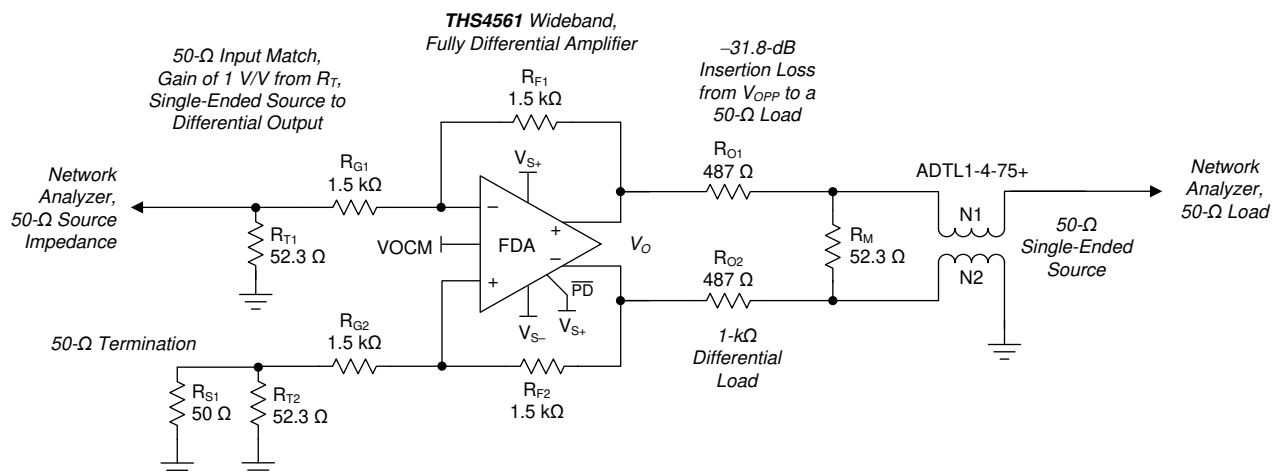

Figure 8-1. Single-Ended Source to a Differential Gain of a 1-V/V Test Circuit
at T_A ≈ 25°C, V_{OCM} pin = open, R_F = 1.5 kΩ, R_L = 1 kΩ, V_O = 2 V_{PP}, 50-Ω input match, G = 1 V/V, $\overline{PD} = V_{S+}$, single-ended input, differential output, and input and output referenced to default midsupply for AC-coupled tests (unless otherwise noted); see Figure 8-1 for a gain of 1-V/V test circuit.
at T_A ≈ 25°C, VO_{CM} pin = open, R_F = 1.5 kΩ, R_L = 1 kΩ, V_O = 2 V_{PP}, 50-Ω input match, G = 1 V/V, $\overline{PD} = V_{S+}$, single-ended input, differential output, and input and output referenced to default midsupply for AC-coupled tests (unless otherwise noted); see Figure 8-1 for a gain of 1-V/V test circuit.
The characterization circuits are typically operated with a single-ended, matched, 50-Ω, input termination to a differential output at the FDA output pins because most lab equipment is single-ended. The FDA differential output is then translated back to single-ended through a variety of baluns (or transformers) depending on the test and frequency range. DC-coupled step response testing uses two 50-Ω scope inputs with trace math to measure the differential output. Single-supply operation is most common in end equipment designs. However, using split balanced supplies allows simple ground referenced testing without adding further blocking capacitors in the signal path beyond those capacitors already within the test equipment. The starting point for any single-ended input to differential output measurements (such as any of the frequency response curves) is shown in Figure 8-1.
Most characterization plots fix the R_F (R_{F1} = R_{F2}) value at 1.5 kΩ, as shown in Figure 8-1. This element value is flexible in application, but 1.5 kΩ provides a good compromise for the parasitic issues linked to this value, specifically:
- Added output loading: The FDA functions similarly to an inverting op amp design with feedback resistors appearing as an added load across the outputs (the approximate total differential load in Figure 8-1 is 1.5 kΩ || 1 kΩ = 857 Ω). The 1.5-kΩ value reduces the power dissipated in the feedback networks.
The frequency domain characterization curves start with the circuit and component selections of Figure 8-1. Some of the features in this test circuit include:
- Translating from a 1-k Ω differential load to a 50- Ω environment introduces considerable insertion loss in the measurements (-31.8 dB in Figure 8-1). The measurement path insertion loss normalizes when reporting the frequency response curves to show the gain response to the FDA output pins.
Starting from the test circuit of Figure 8-1, various elements are modified to show the effect of these elements over a range of design targets, specifically:
- Resistive and capacitive output load testing. Changing to lower resistive loads is accomplished by adding parallel resistors across the output pins in Figure 8-1. Changing to capacitive loads adds series output resistors to a differential capacitance before the 1-k Ω sense path of Figure 8-1.